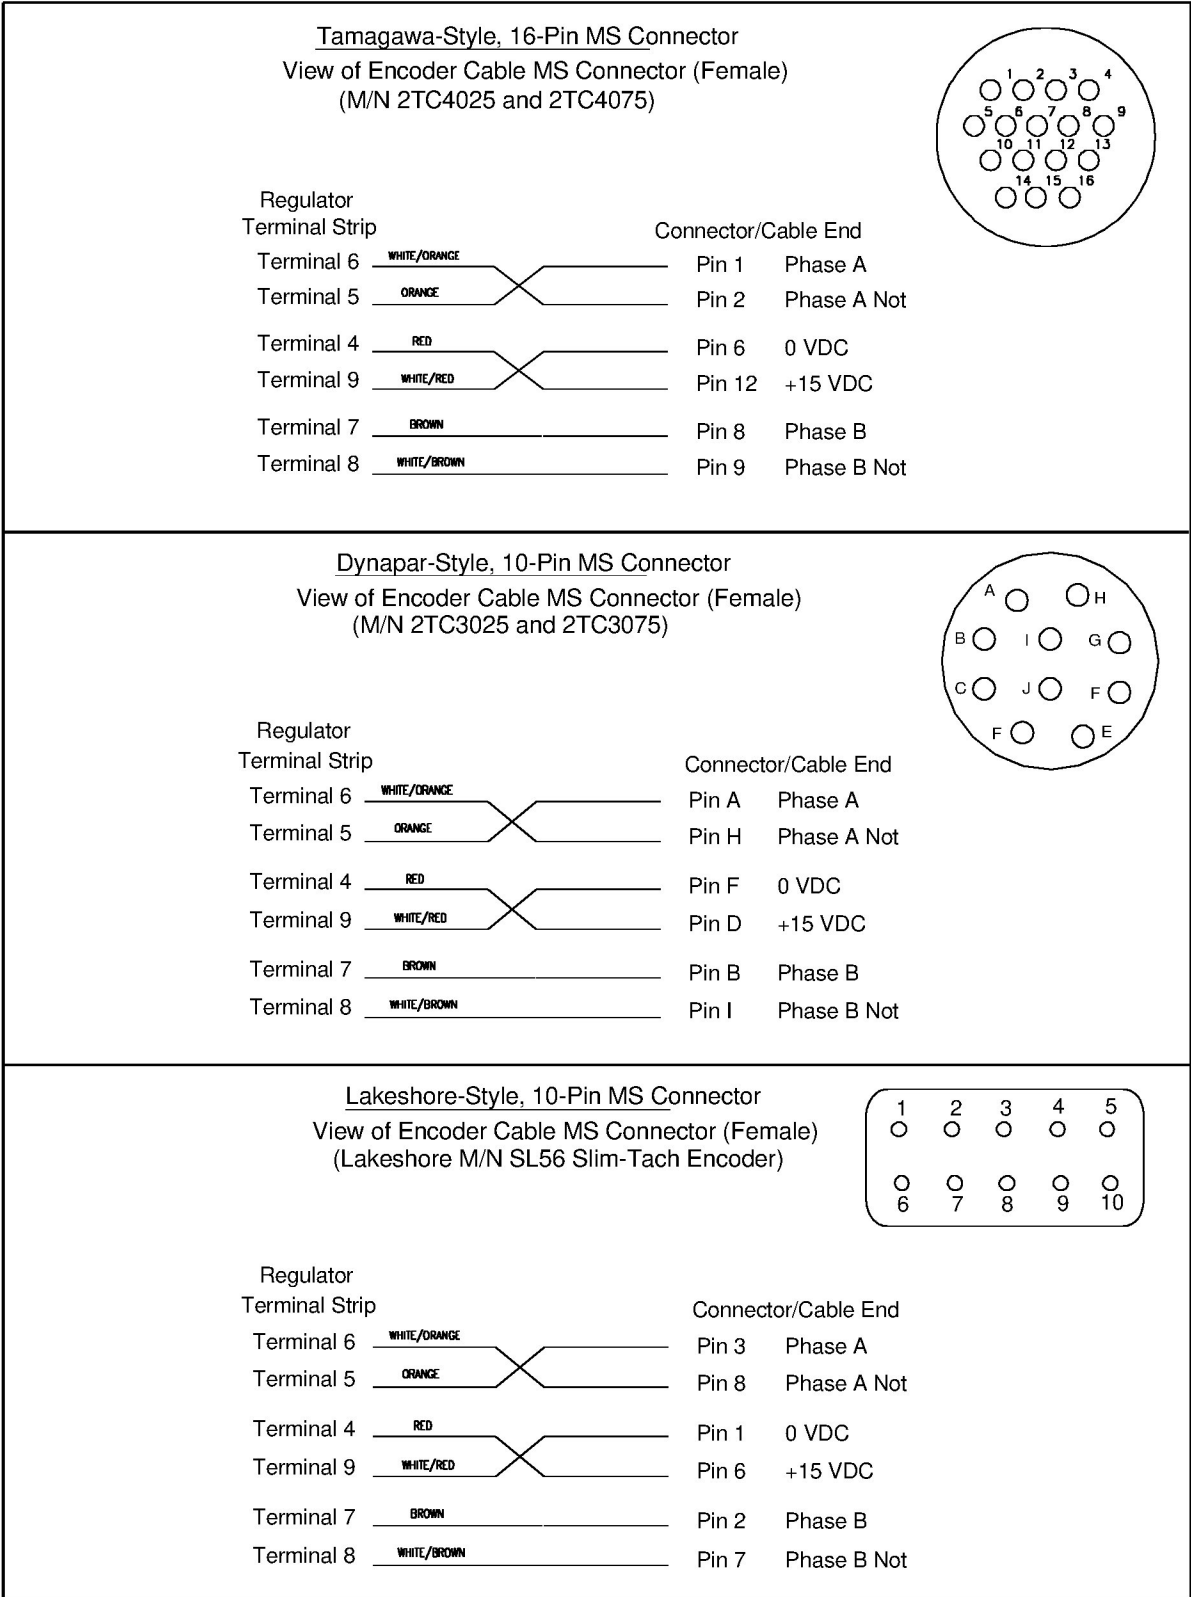

Figure 7.3 – Encoder Wiring Connections
- Step 1. Connect the encoder's wires to terminals 4 through 9 of the terminal strip. See figure 7.3. See table A.6 for additional encoder specifications. Refer to section 3.2.4.1 for encoder wiring guidelines.